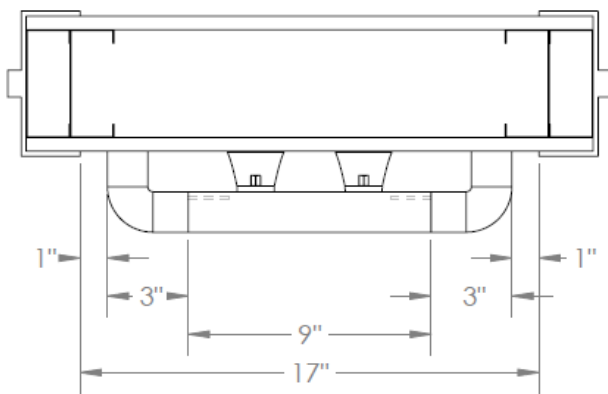
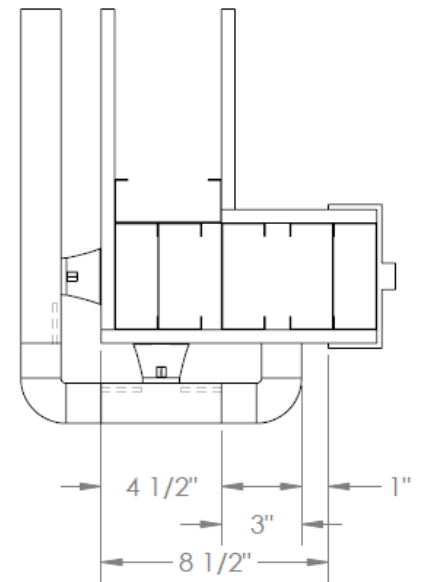

Figure 1
Figure 3
Install the longest run of the handrail first, use scrap for shorter runs. The handrail requires a minimum of 2 standoffs per unit/run. The minimum distance of a straight run for this handrail is 17" (see Figure 1). The minimum distance from a corner to an end cap for this handrail is 8-1/2" (see Figure 3).
STEP 2. Layout the handrail runs, marking the location of each standoff along the chalk or laser line. There must be a standoff located 6" from the start and the end of each run. Standoffs must be located 6" from all outside corners and 10" from all inside corners. The remaining standoffs are to be spaced a maximum of 32" O.C.. Make sure there is an equal distance on both ends of the handrail run from door jambs and windows (see Figures 1, & 3).